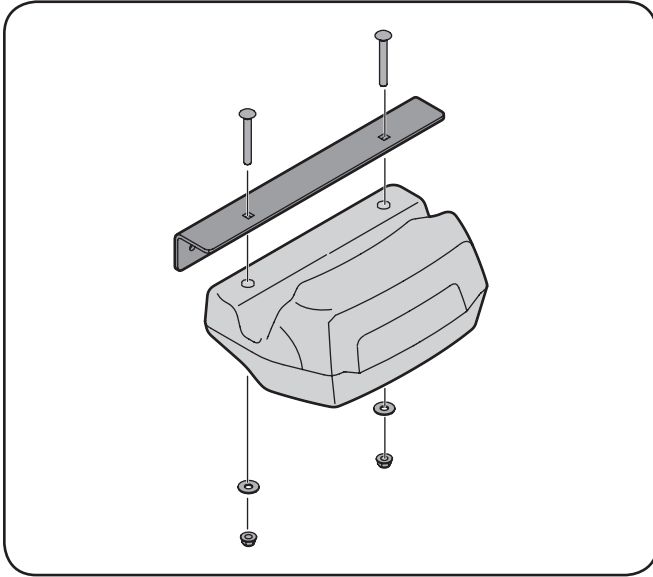
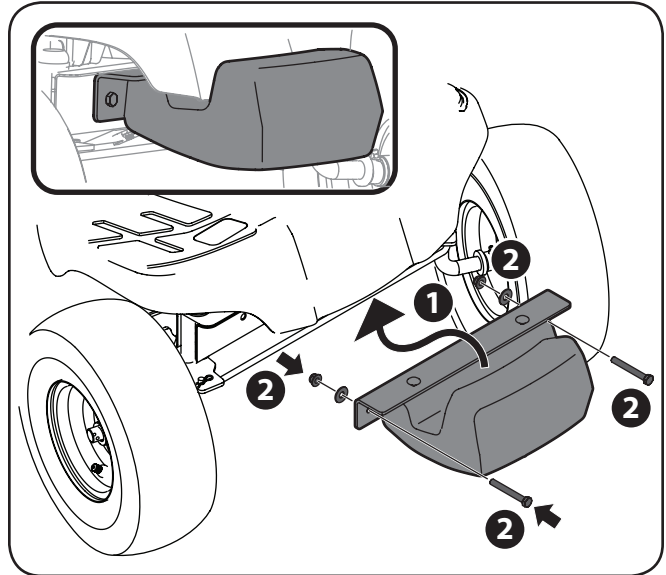

Figure 4-8
Figure 4-10
Assemble, then attach the weight bar to the front steering assembly using the hardware in pack 683-05147, as shown in Figure 4-8 and Figure 4-10.
1. Install the counter weight mounting bracket to the counter weight using two 710-0572 carriage bolts, two 736-0159 flat washers and two 712-04063 flange lock nuts from hardware pack 683-05147. See Figure 4-8.